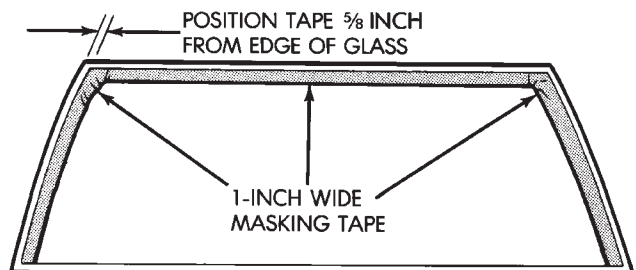

Fig. 14 Masking Tape Location For Blackout Primer
(7) Place the glass on the pinchweld flanges and inspect for gaps in the urethane. Gaps in excess of 3 mm (1/8 inch) must be filled with urethane.
(8) Adjust windshield glass position until it is aligned with the flanges and adhesive. Next, make alignment marks on the glass and body.
(9) Remove the windshield glass (but not the support spacers) and position it on a flat surface.
(10) If the replacement windshield glass does not have blackout primer:
- attach a 25 mm (1 in) wide masking tape band around the interior side of the glass 16 mm (5/8 in) from the edge of the glass (Fig. 14);
(7) If the pinchweld flanges require repair, remove the windshield glass and straighten, align, or repair the flange(s) as necessary.
(8) Position the windshield on the spacers and inspect the windshield fit again. Mark the windshield final position on the glass and body with a wax pencil (or use masking tape). The marks (or masking tape) will be used for installation alignment reference.
(9) If the replacement windshield does not have blackout primer:
- attach a 25-mm (1-in) wide masking tape band around the interior side of glass 16 mm (5/8 in) from edge of glass (Fig. 14);